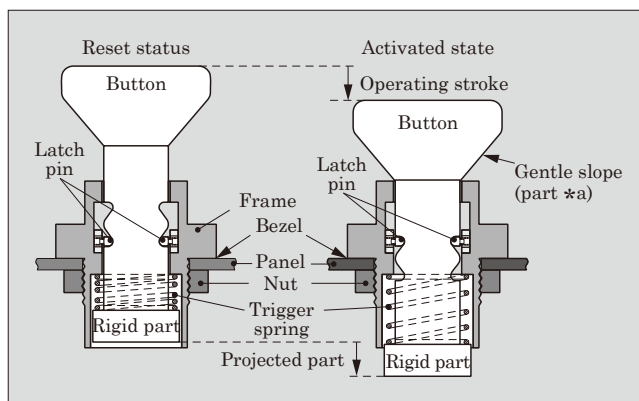

Fig.4 Schematic diagram of  $\phi 22$  operating element
The role of the operating element is to transmit operating force while ensuring the visibility required for an emergency stop switch and functionally satisfying the direct contact opening operation and latching required by international standard IEC 60947-5-5 (Electrical emergency stop device with mechanical latching function), etc. Figure 4 shows a schematic diagram of the  $\phi 22$  pushbutton switch, which has the following features:
- (3) A gentle slope is provided on the opposite side of the button's operation surface to prevent any object from being caught between the button and the panel (see part \*a in Fig. 4).